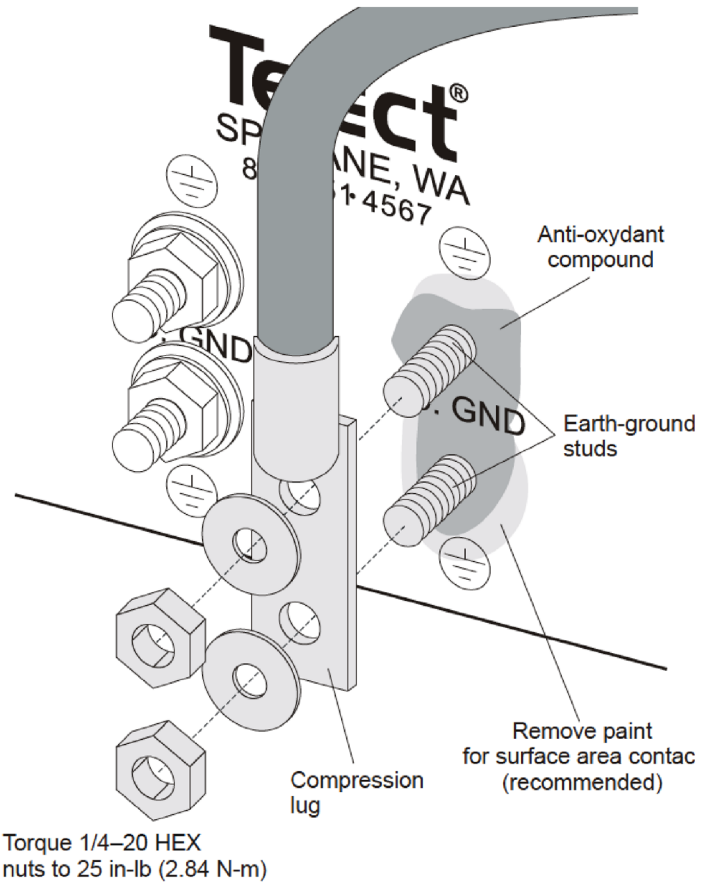

Fig. 4: Ground to Chassis
8. Connect using 1/4-20 hex nuts and flat washers provided, as shown in Figure 4.